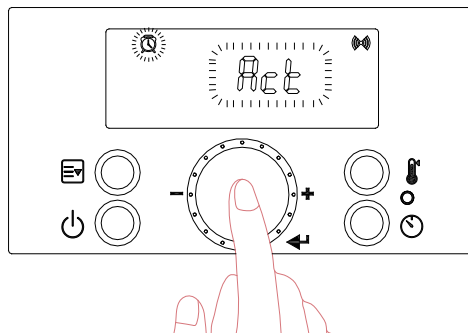

Figure 41 – Setting the Recirculation Timer Type
- b. Press the  button at the “Act” screen to select the Recirculation Timer type. See Figure 41. Turn the dial  to choose between “Auto” or “Pro9”.